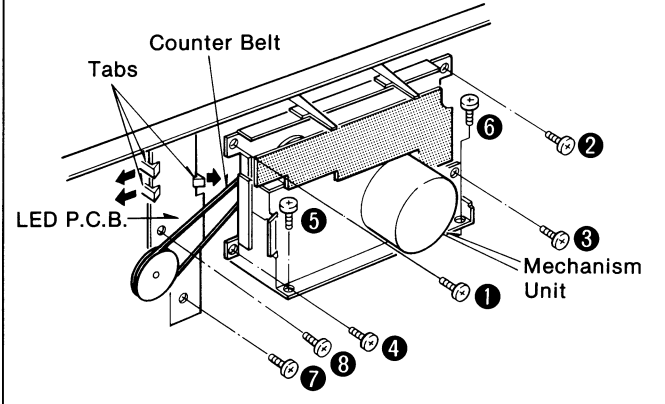

Fig. 2
Ref. No. 2 Procedure 1 → 2 1. Remove the one screws (①). 2. Open the side of back chassis, and then pull down it. 3. Remove the one screw (②). 4. Remove the 4 tabs aside.	Ref. No. 5 Procedure 1 → 5 1. Remove the 2 screws (⑦, ⑧). (fig. 2) 2. Remove the 3 tabs aside. (fig. 2)